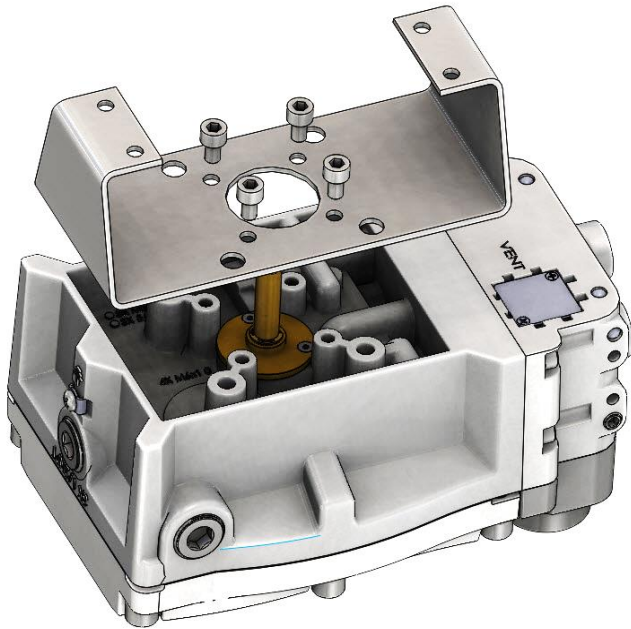

Figure 18: AutoMax Bracket
- 1 Attach the mounting plate to the positioner using four screws. See Figure 18: AutoMax Bracket.